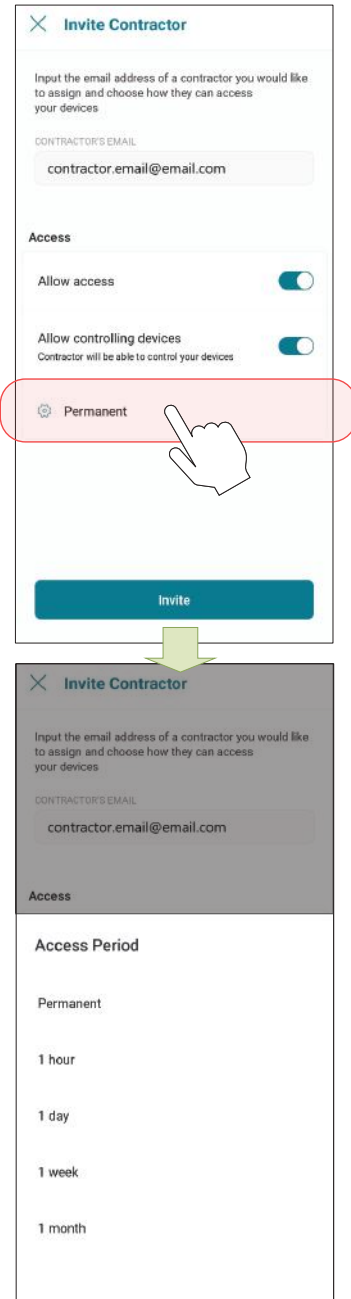

Figure 113. Enter Contractor Email and Access Level
- Add your contractor’s email and select the access options as needed. See Figure 113: